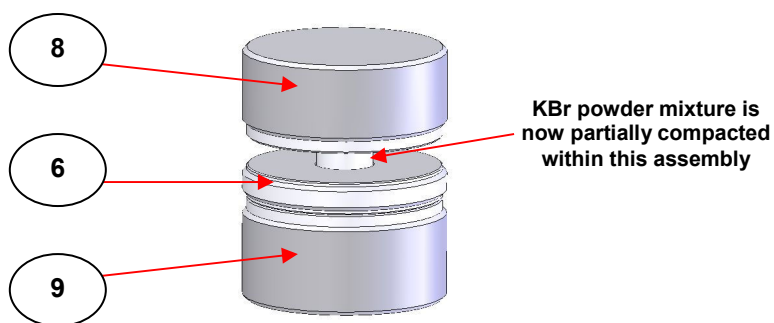

Fig 4. 7mm Pellet Die Assembly with Sample Prior to Pressing
Now, take the top anvil (8) and place it carefully (plunger face downwards) over the powder/7mm pellet die ring holder (6)/bottom anvil (9) assembly. Locate the central plunger section of the top anvil (8) over the powder sample within the aperture hole and use light pressure from your hand to compact the powder mixture into the hole. The mixture is sufficiently soft to allow the plunger part of the top anvil (8) to fit and locate loosely into place in the aperture hole of the 7mm pellet die ring holder (6).. (See Fig 4.)
Prepare the Mini-Pellet Press to accept the 7mm pellet assembly (1) as formed at the stage shown to Fig 4.